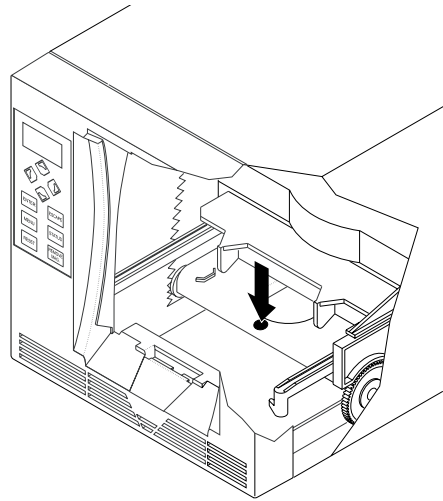

Figure 7-1 Positioning the robot for shipping
5. If necessary, manually push the robot down to the bottom of the autoloader (see Figure 7-1).